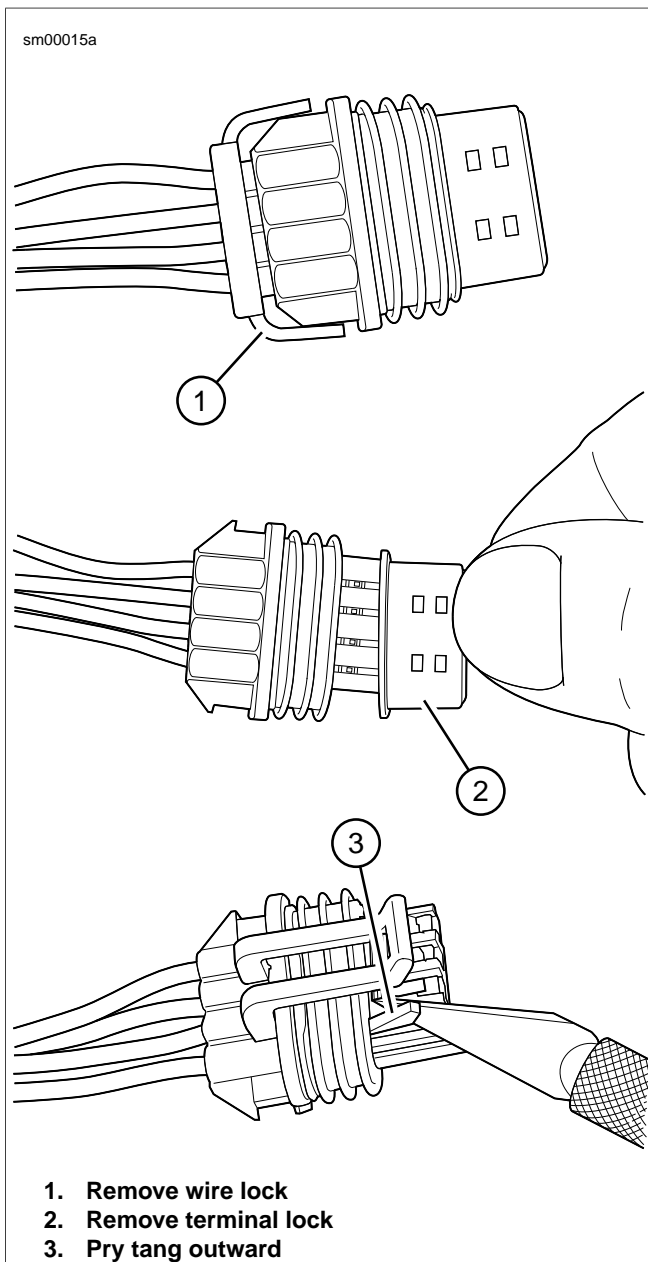

Figure A-24. Delphi GT 150 Sealed Connector: Removing Socket Terminals
1. See Figure A-24. If present, free one side of wire lock (1) from ear on wire end of socket housing. Release the other side if necessary. Release wires from channels in wire lock. Remove from socket housing.
2. Use a fingernail to pry colored terminal lock (2) loose. Remove from mating end of socket housing.
3. Use the thin flat blade from a hobby knife. Gently pry tang (3) outward away from terminal. Tug on wire to back terminal out wire end of chamber. Do not pull on wire until tang is released or terminal will be difficult to remove.